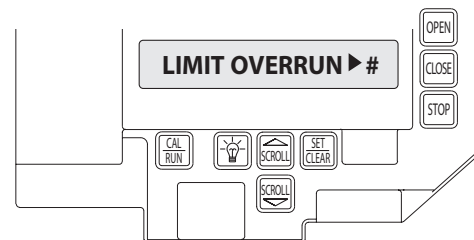

Figure 9
- 2) Press scroll (DN) until the display reads "LIMIT OVERRUN>(0-9)." **Fig. 9.**